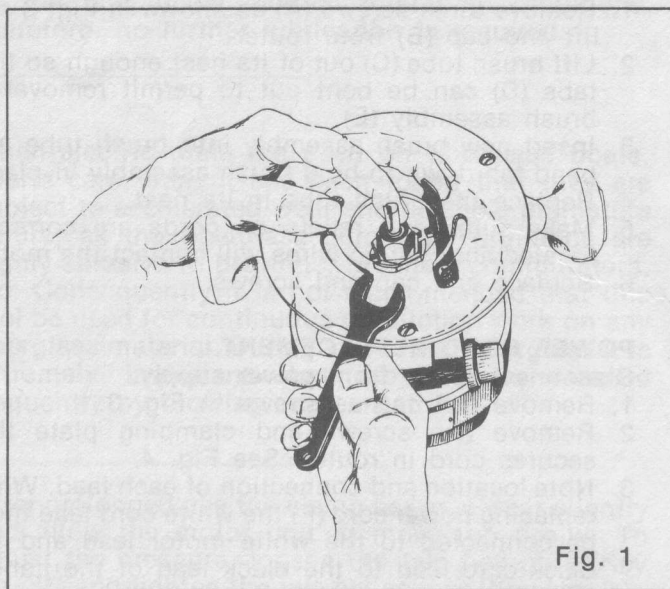

Fig. 1
2. Hold the output shaft by depressing locking lever until it engages notch in lock nut. See figure 1.